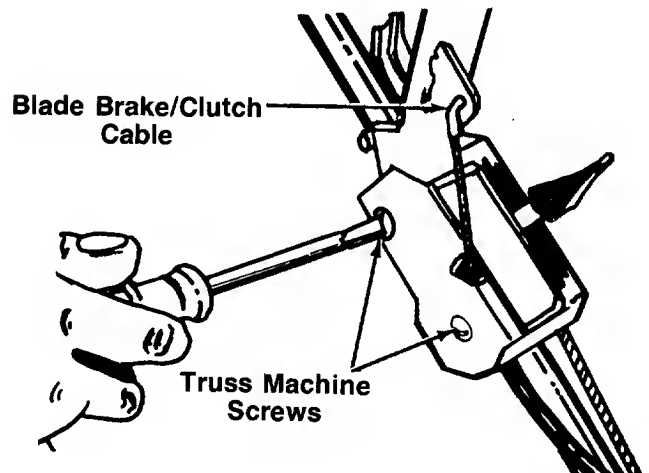

FIGURE 14.
5. Remove two truss machine screws on the inside of the control housing as shown in figure 14.